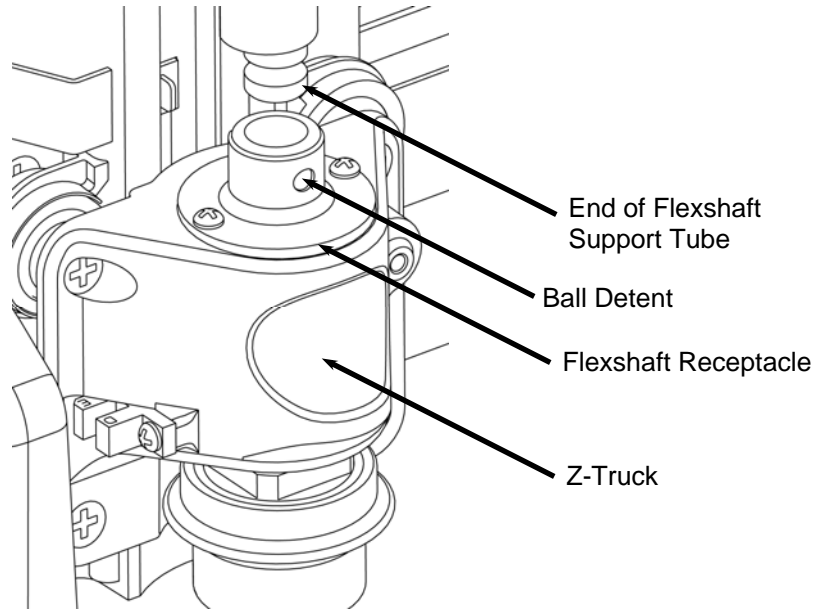

FIGURE 3: VIEW OF THE FLEXSHAFT CONNECTION TO THE Z-TRUCK
- Detach the flexshaft from the top of the Z-truck:** The flexshaft assembly is retained by a ball detent located in the flexshaft receptacle (See Figure 3). Firmly grasp the flexshaft support tube while reaching under the clear front cover with your other hand to grab the Z-truck. Pull up firmly on the flexshaft support tube and twist slightly while bracing the Z-truck. **DO NOT PULL ON THE SHEATH.** The flexshaft will pop out of the detent. Grab the exposed end of the flexshaft core and pull it out of the sheath. Place it aside in a clean location.